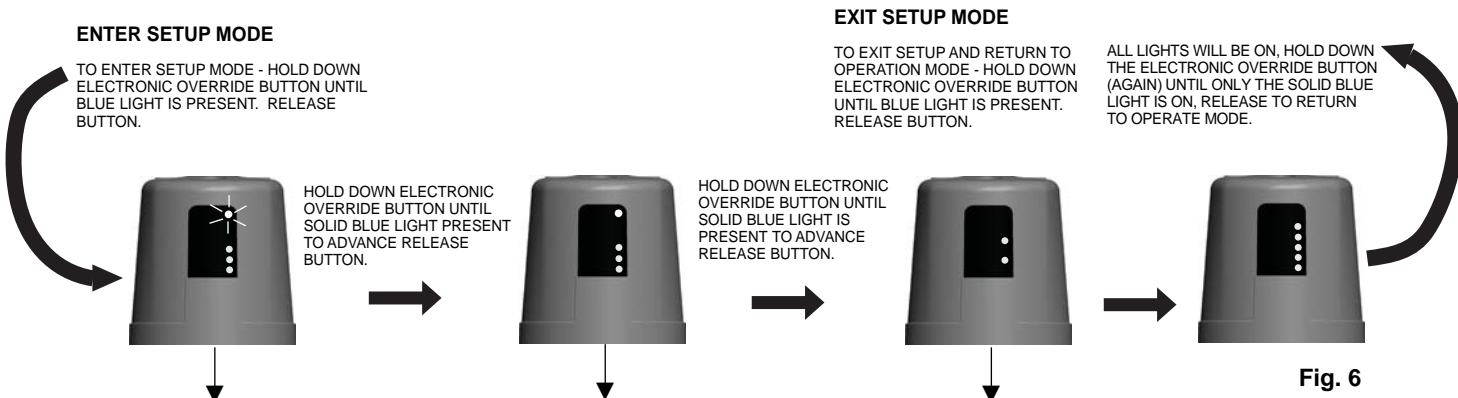

Fig. 6
- While in Set-Up Mode, the user will move through the different adjustment modes one by one, in the order as described above. Use the electronic override button to toggle through the different settings of the adjustment feature being altered. To advance to the next adjustment mode, hold down electronic override button until blue light is present, then release the button. See Figure 6.
- Configure the sensing ranges by selecting the appropriate bowl length. Refer to Figure 6 for the different bowl length settings.
- Each press and release of the electronic override button advances to the next length/distance. (See Figure 6 for a list of distances.)